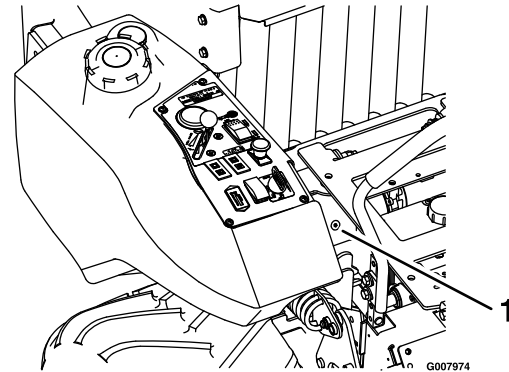

Figure 10
4. Locate the auxiliary hydraulic power unit reservoir (see Figure 10).